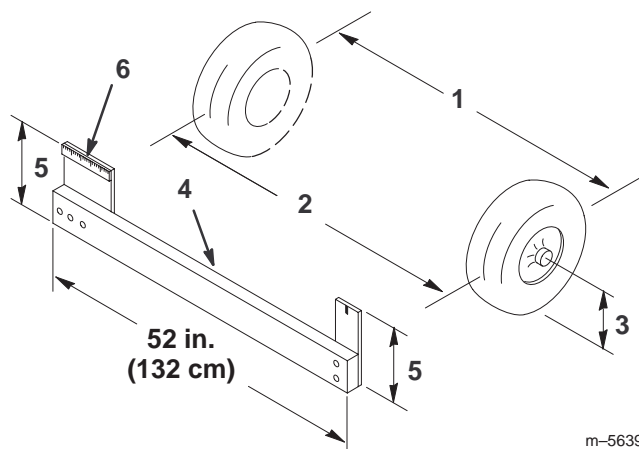

Figure 25
2. Measure the distance between both of the front tires at the axle height at both the front and rear of the front tires (Fig. 25). A fixture or alignment gauge is needed for the rear measurement of the front tires at axle height. Use the same fixture or alignment gauge to accurately measure the front of the front tires at axle height (Fig. 25).